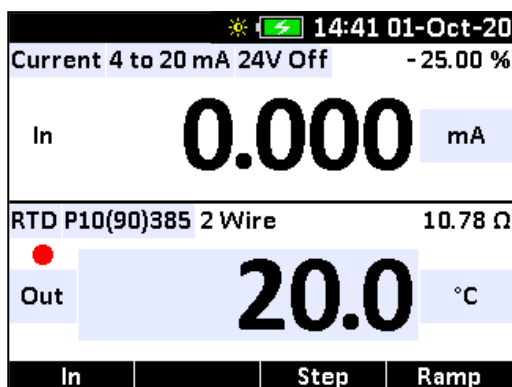

Figure 11
5. Connect the calibrator to the instrument being tested, as shown in Figure 11.
5. Attach the custom RTD leads as shown in Figures 11 or 12.